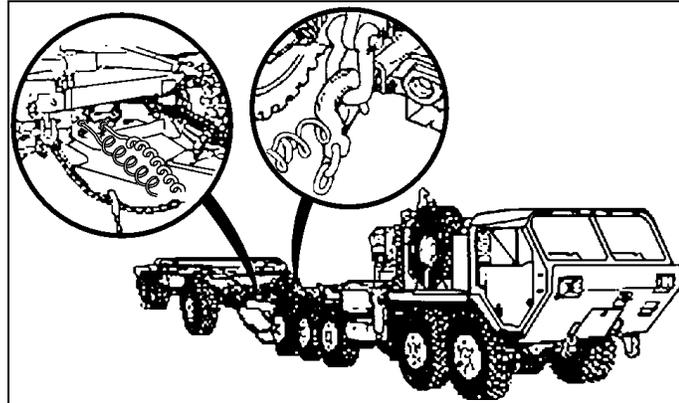

Figure 3-62a. Coupling
- h. Cross safety chains under drawbar ring and attach to towing vehicle eyebolts (see Figure 3-62a).